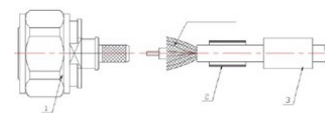

Figure 3
1. Splay the braid to resemble the “conical” shape as shown in Fig 3.